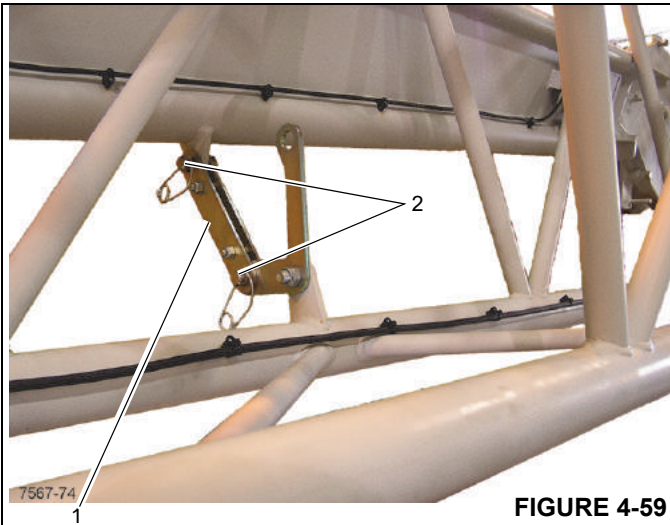

FIGURE 4-59
5. Secure the 23 ft (7 m) extension to the 36 ft (11 m) extension with the locking bar (1) (Figure 4-59) and pins (2).
- The two extensions are connected and secured with retaining pins (Figure 4-59).
- The connection between the extension and main boom is secured with retaining pins (Figure 4-59).